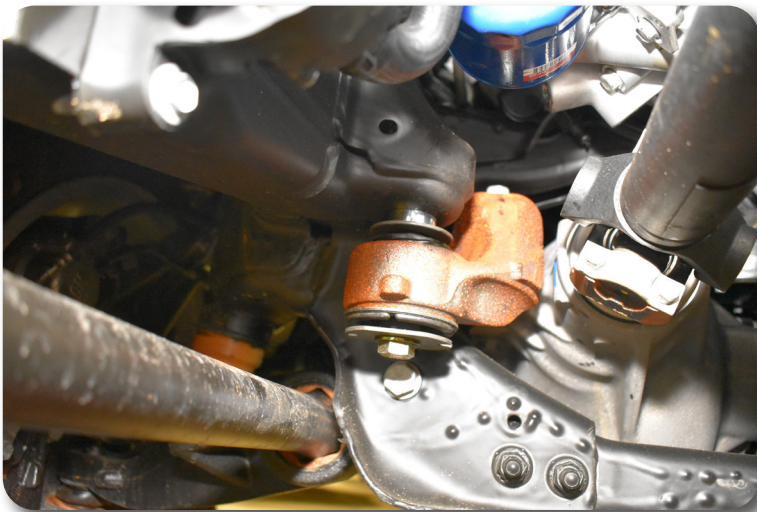

Figure 9 Rear Driver Mount Shown
18. Lower the differential and install the spacers between the frame mounting points and the factory brackets. Use the short 1/2" tall spacer at the rear mount with 9/16" x 5" hardware. Use the tall 7/8" spacer at the front mount with 9/16" x 5-1/2" hardware. Figure 9 Torque the 9/16" hardware to 118 ft-lbs.